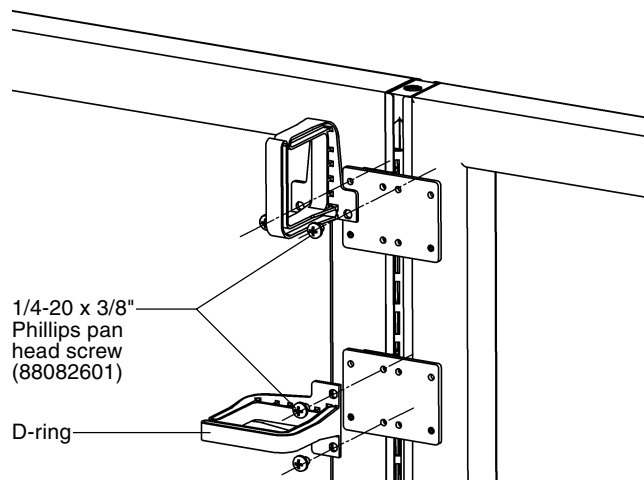

Figure 2
3. Align the holes in the D-ring or other component with two of the tapped holes in the Uniclip that are either vertically or horizontally spaced at 1.75" apart. Insert two 1/4-20x3/8" Phillips pan head screws through the holes in the component and into the tapped holes of the clip. Tighten screws securely (Figure 2).